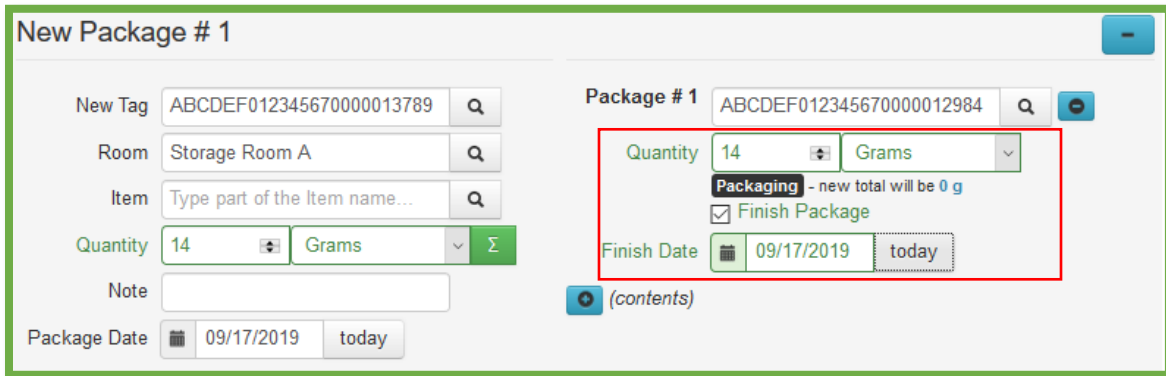

Figure 6: Finishing a Source Package
If a source/content package remaining quantity is calculated to be zero (0) when creating a new package, the user will now be able to finish that source package at the same time as creating the new package(s). **Figure 6** below shows an example of finishing a source package when creating a new package. Once the user has selected the Finish Package box, identified a Finish Date, and selected “Create Packages,” the source package will be moved to the Inactive tab.